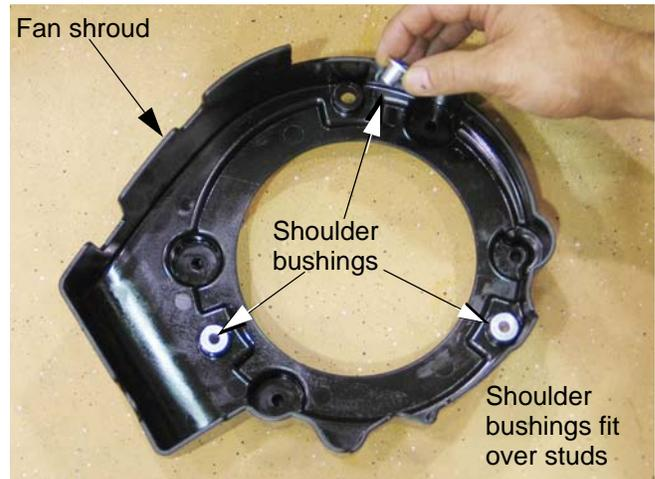

Figure 7.23
2. Lift the fan shroud off of the three studs that locate it. See Figure 7.23.